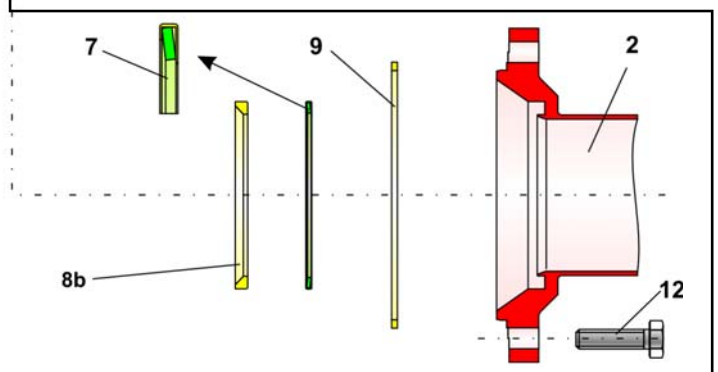

Fig 4 - Explosion drawing of the pigging ball valve DN 150
Insert the lined spring washer (7) in the main body (1). Refer to the drawing (Fig 4) for the assembly position of the spring washer.